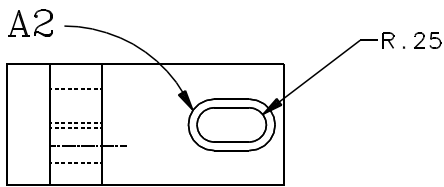

Figure 23
86. Click on A2 (the .375R arc). (See Figure 23.)